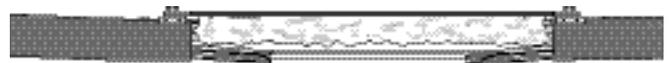

Figure 13
2. Loosely wrap perforated aluminum foil around one group of conductors and secure it in place with a tie wrap. (Figure 13)